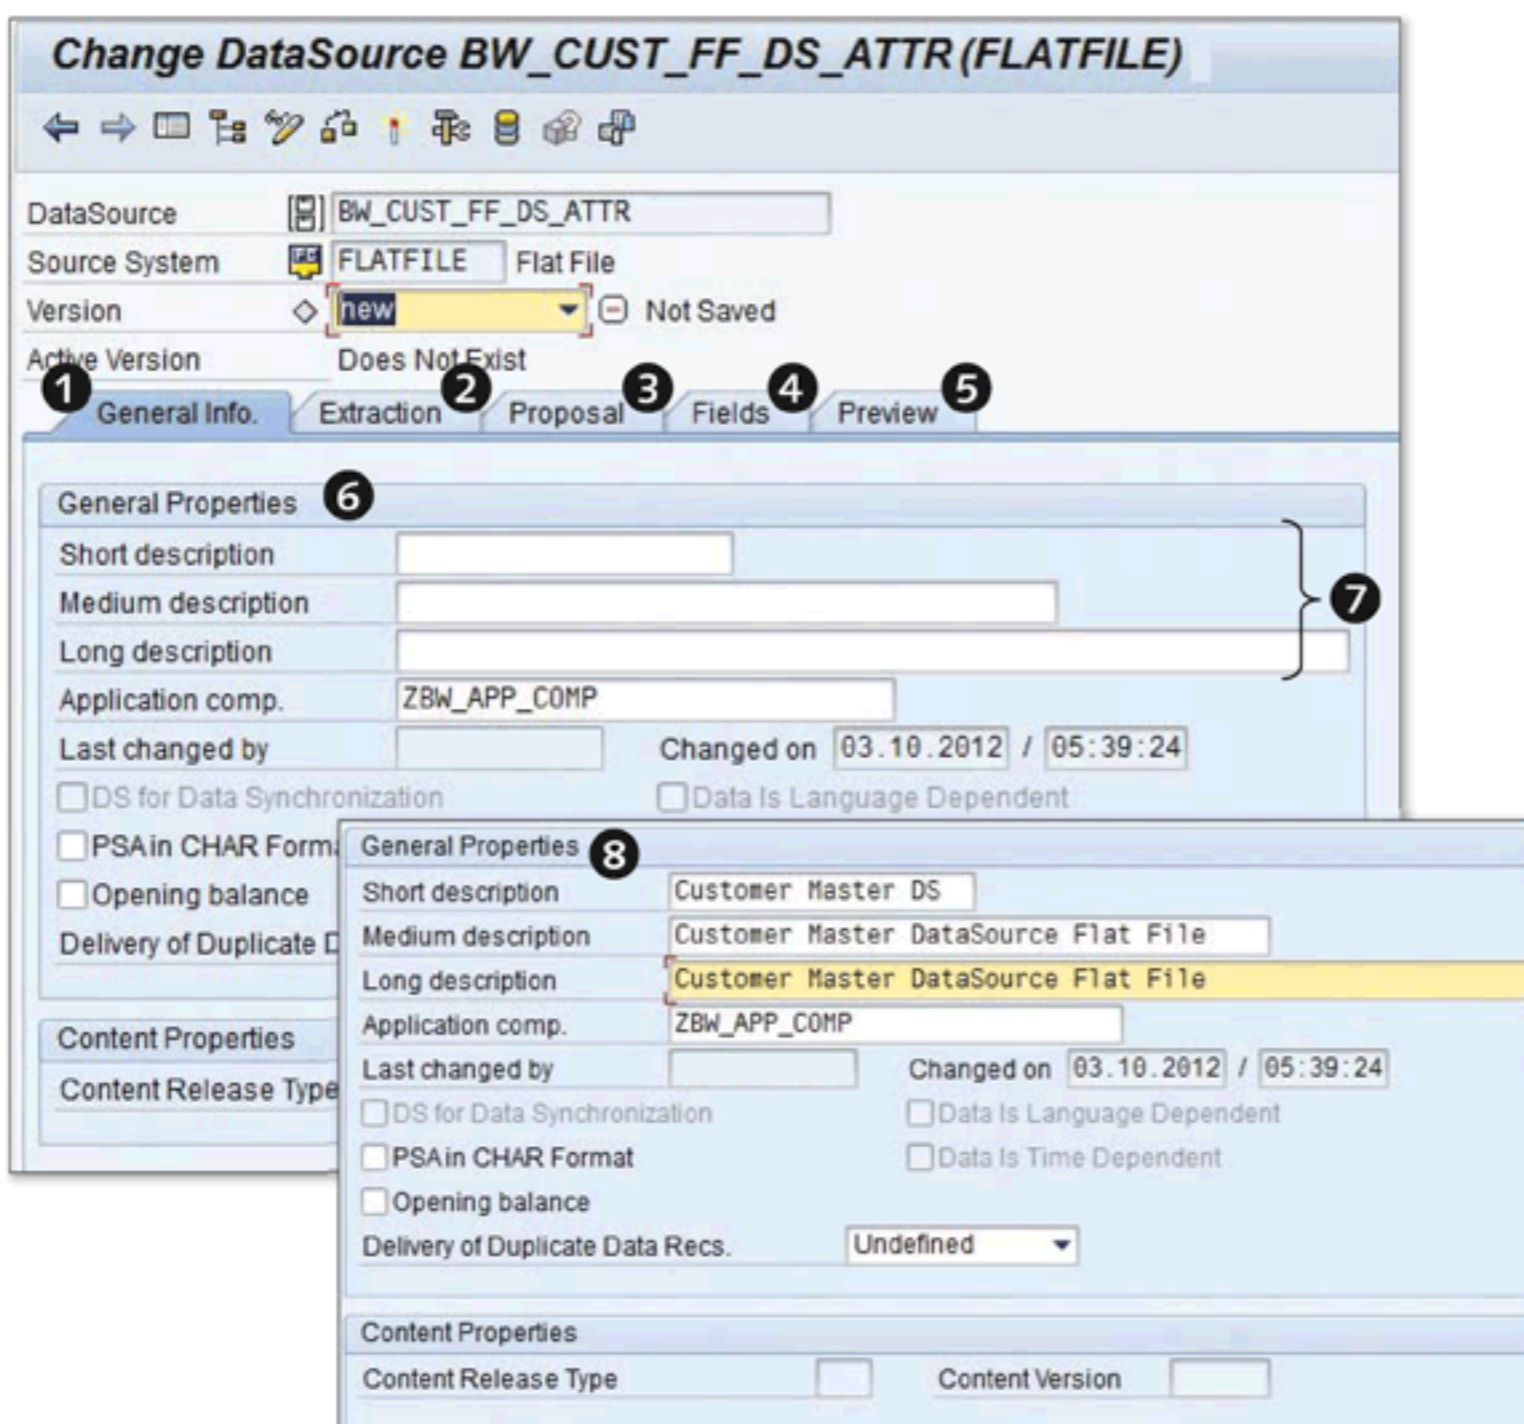
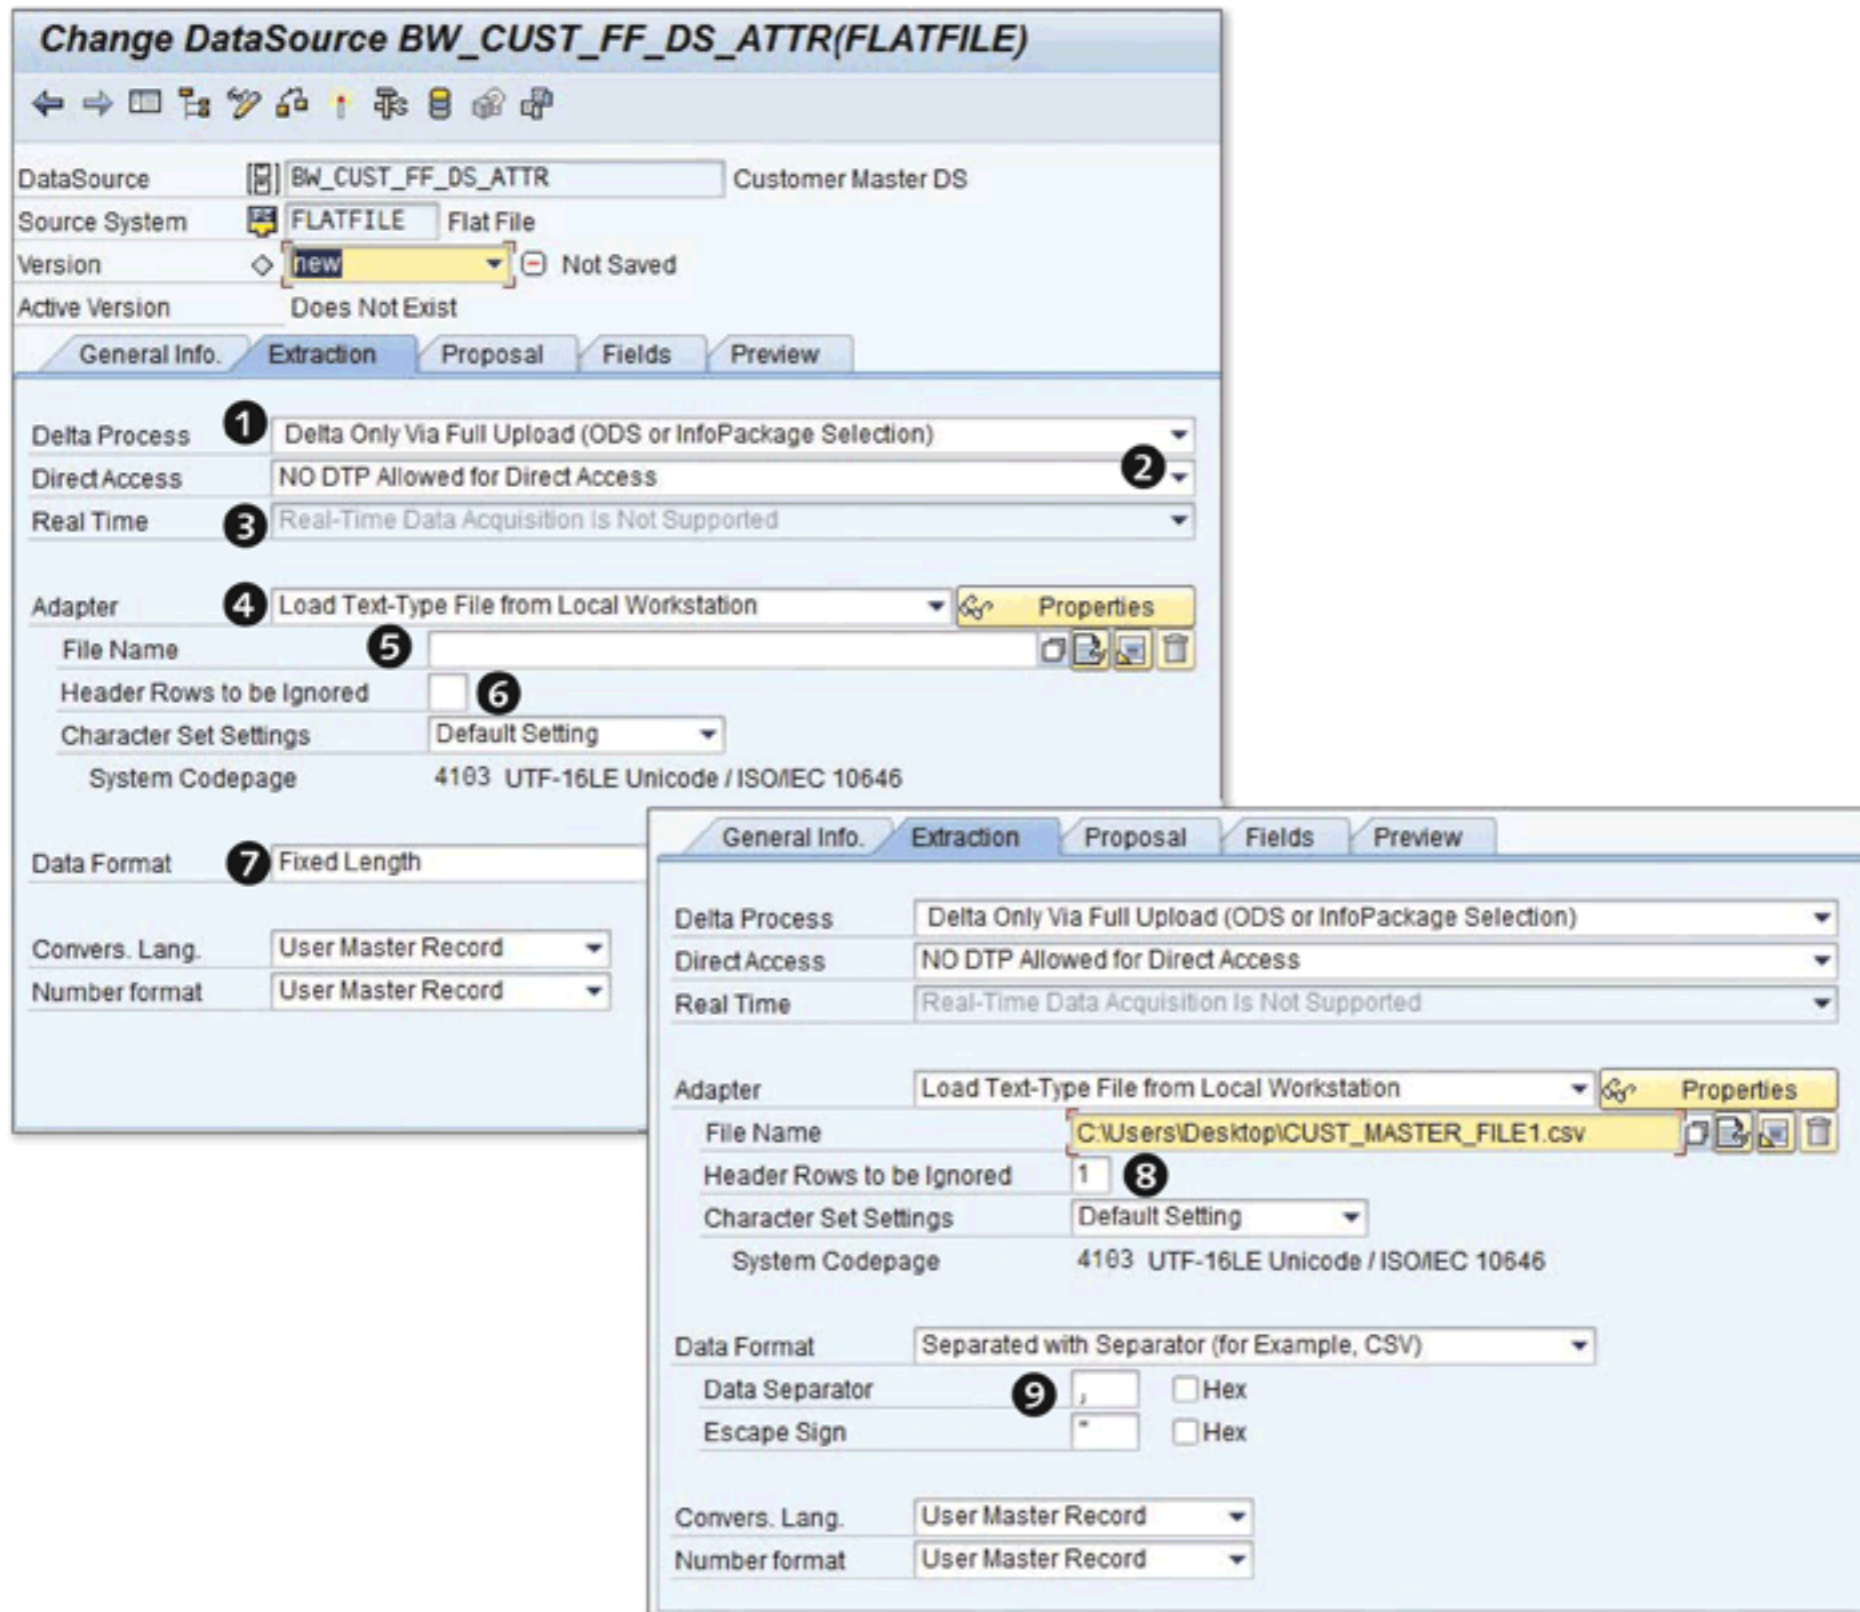

Figure 7.10 Create DataSource for Flat File: General Info
Figure 7.11 Create DataSource: Extraction Tab
Click on the CONTINUE icon (6). The resulting screen shown in Figure 7.10 has five different tabs (1 through 5), which change depending on the source system. We discuss each of these tabs in more detail next.
In this tab (1 of Figure 7.10), you define general information and properties about the DataSource (6), including short, medium, and long descriptions (7). For our example, we provide the following:
The EXTRACTION tab (2 of Figure 7.10) allows you to configure the delta process, type of access, and real-time access you want to set for your DataSource (1, 2, and 3 of Figure 7.11). Provide the actual name of the file, its location, and its type in the ADAPTER and FILE NAME fields (4 and 5). We explain all major configuration settings in this tab next.
This field describes all of the capabilities and restrictions of a DataSource. For flat files, SAP NetWeaver BW offers three different types of delta processes: DELTA ONLY VIA FULL UPLOAD (ODS or Info Package selection), FILO (DELTA DATA WITH AFTER IMAGES), and FILE1 (DELTA DATA WITH DELTA IMAGES). Our example DataSource isn't supplying delta records, so choose DELTA ONLY VIA FULL UPLOAD (1 of Figure 7.11).
There are two options for configuring DataSources with direct access: NO DTP ALLOWED FOR DIRECT ACCESS (the default option) and ALLOWED, which is relevant when you plan to configure a VirtualProvider based on this DataSource (see Chapter 6 for more information about VirtualProviders). Most DataSources aren't capable of supporting direct access; also, the default setting for a DataSource for a flat file is NO DTP ALLOWED FOR DIRECT ACCESS; choose this default option, as shown in 2 of Figure 7.11.
SAP NetWeaver BW allows you to access real-time data from the source system, a process handled by running a daemon. Because the DataSources based on flat files don't support real-time extraction, the field is uneditable (❸ of Figure 7.11).
In our example, the file is available on a local workstation in CSV format, so we select LOAD TEXT-TYPE FILE FROM LOCAL WORKSTATION (❹ of Figure 7.11). When the file location is selected as a local workstation, you can't schedule the background job. To use background processing (and the process chain tool), the file must be located on the application server.
After you decide on the type of adapter, select the name and location of the physical file in which your data is available using the dropdown list (❺ of Figure 7.11). After you select a location, a full directory path is displayed (❽).
You may require that the file to be loaded be available with a new name (e.g., if you're loading customer master data every month, each new file created by the source system may have the month as part of its file name). In this scenario, you can create the ABAP routine to generate the file name instead of hard-coding it. To do this, click on the CREATE ROUTINE FOR FILE NAME icon (❿), which opens up the ABAP editor. Type "logic" in the ABAP editor to arrive at the file name dynamically. In our example, we hard-code the file name as shown in ❸ of Figure 7.11.
so you don't have to load the first row of this file. Indicate this by giving the number of the header rows to be ignored, as shown in ❸ of Figure 7.11.
As previously mentioned, text files can have two different formats, CSV and ASCII, and you must indicate the appropriate format in the DATA FORMAT field (refer to ❷ of Figure 7.11). By default, this field is filled with the FIXED LENGTH (or ASCII) option. However, because our example data is stored in CSV format, we change this using the dropdown list (refer to ❹ of Figure 7.11).
CSV format allows you to select your own separator (commas, semicolons, etc.) when creating the CSV file, and you must indicate what you've chosen in the DATA SEPARATOR field (refer to ❺ of Figure 7.11). In our example, we use the comma.